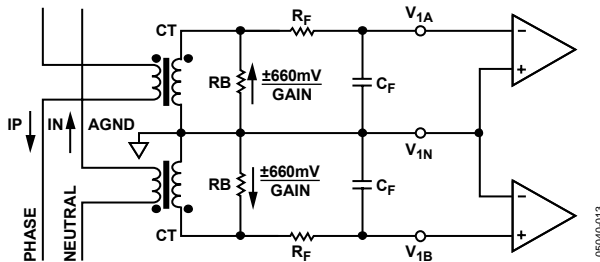

Figure 15. Typical Connection for Channel 1
Figure 15 shows a typical connection diagram for Channel V1. The analog inputs are used to monitor both the phase and neutral currents. Because of the large potential difference between the phase and neutral, two current transformers (CTs) must be used to provide the isolation. Note that both CTs are referenced to analog ground (AGND); therefore, the common-mode voltage is 0 V. The CT turns ratio and burden resistor (RB) are selected to give a peak differential voltage of  $\pm 660$  mV/gain.